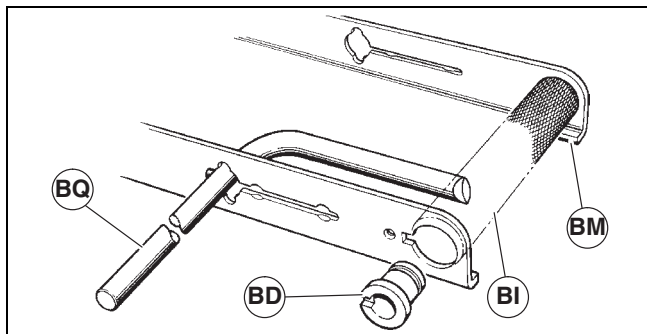

Figure 48
2. Insert pulley installation tool (Figure 48, item BQ) (25-07, part of tool kit 4500) into conveyor frame.